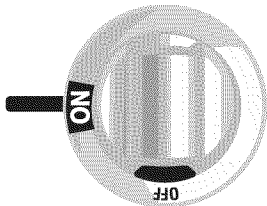

Figure 1
2. Turn the small Simmer Select control knob to ON (Figure 1).